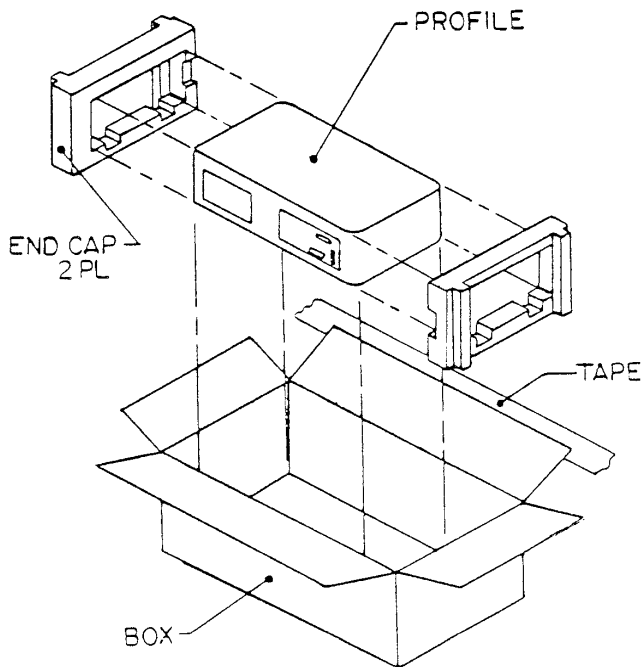

FIGURE 14
4. Place End Caps snugly onto the ends of the ProFile (Figure 14).